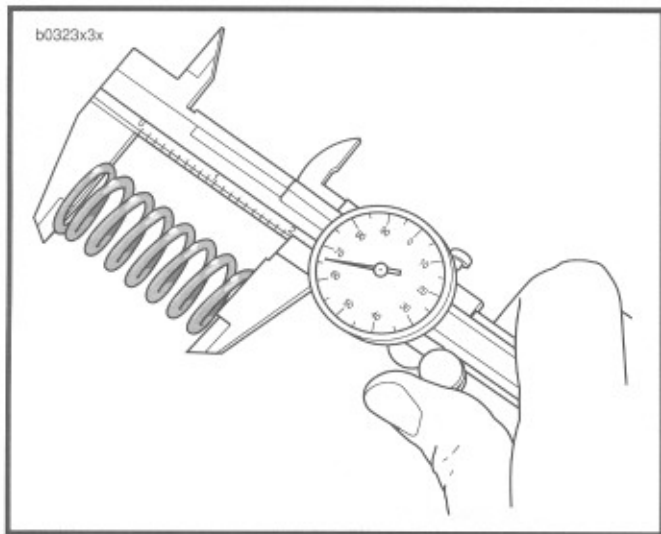

Figure 3-15. Checking Spring Free Length
18. See Figure 3-15. Check free length and compression force of each spring. Compare with ENGINE SPECIFICATIONS. If spring length is shorter than specification, or if spring compression force is below specification, replace spring.